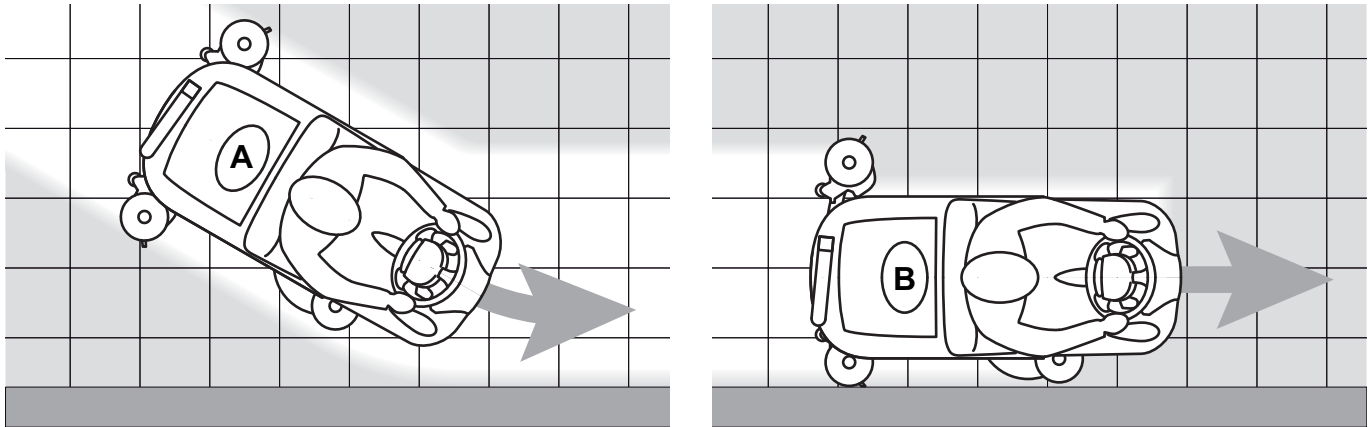

Figure 3
*For correct scrubbing/drying of floors at the sides of the walls, Advance suggests to go near the walls with the right side of the machine as shown in figure 3.*